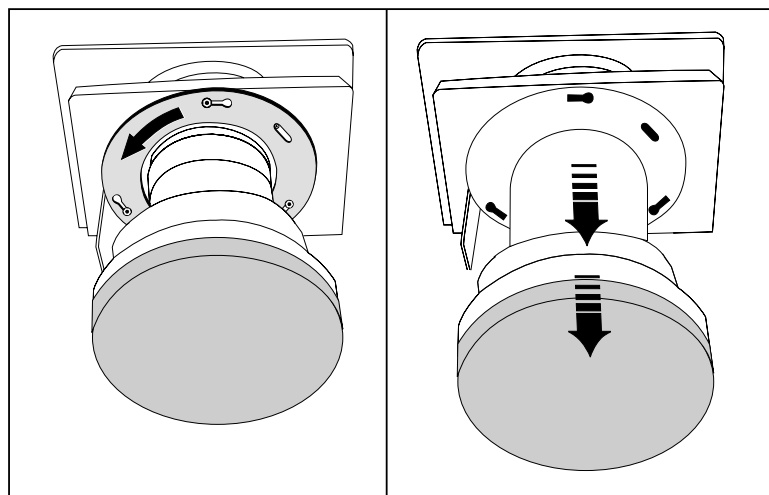

Figure 4.12. Rotate Lens and Remove (FIXED LENS SHOWN)
STEP 3 ➤ Rotate Lens and Remove (Figure 4.12)